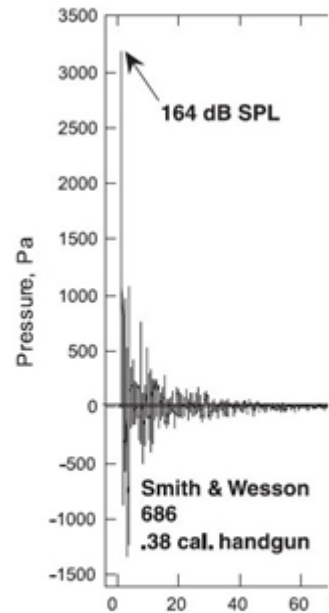

Figure 1. Example of impulse waveform from handgun. Flamme, et al 2009.
*Impulse* noises are generally defined as sounds with short duration (less than 1 second) such as gunfire, explosions or the “pop” of a pneumatic nail gun. These sounds typically have an extremely fast onset and often reach very high sound pressure levels (SPL). In figure 1, for example, the sound of gunfire reaches a peak SPL of 164 decibels (dB) in the first few tenths of a millisecond then decays rapidly.